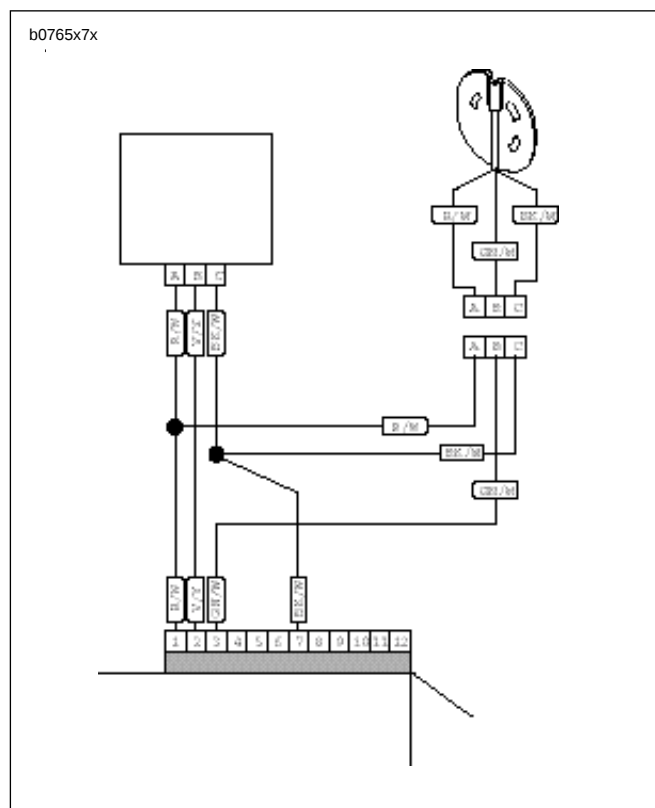

Figure 4-72. Connecting Sensor Wires
5. See Figure 4-72. Install sensor wiring terminals into correct positions in plug end of connector [14]. R/W, GN/W and BK/W wires of plug end (from cam position sensor) must match same color wires in receptacle end of connector (from ignition module wiring harness). Install pin terminals. See Appendix B.